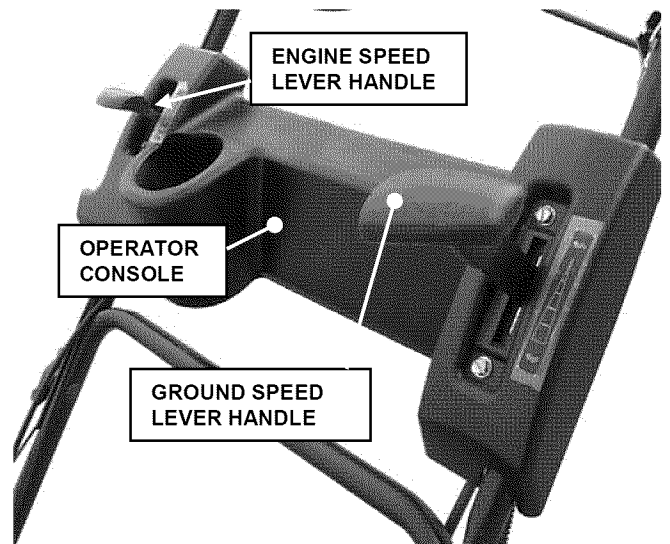

FIGURE 7
1. Install Operator console onto upper handle section with four 1/4-20 x 1/2" torx screws. See Figure 7.